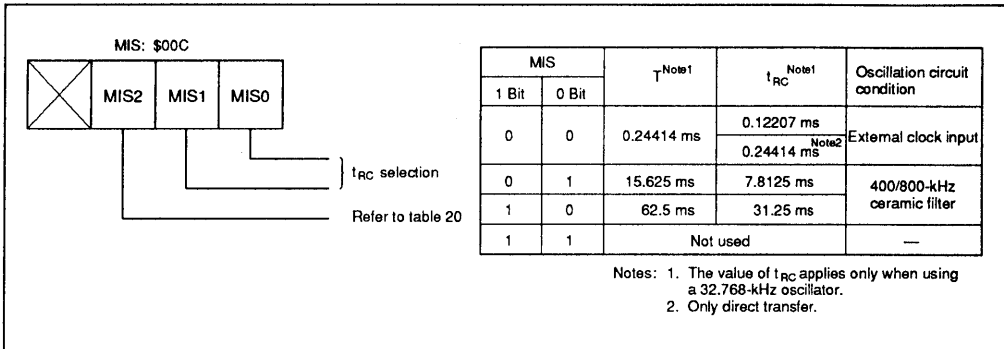

Figure 34 Miscellaneous Register
**Interrupt Frame:** In watch and subactive modes,  $\Phi_{CLK}$  is supplied for timer A and the  $\overline{INT}_0$  circuit. Prescaler W and timer A operate as time bases to generate interrupt frame timing. Three interrupt frame cycles (T) can be selected by the settings of the miscellaneous register, as shown in figure 34.